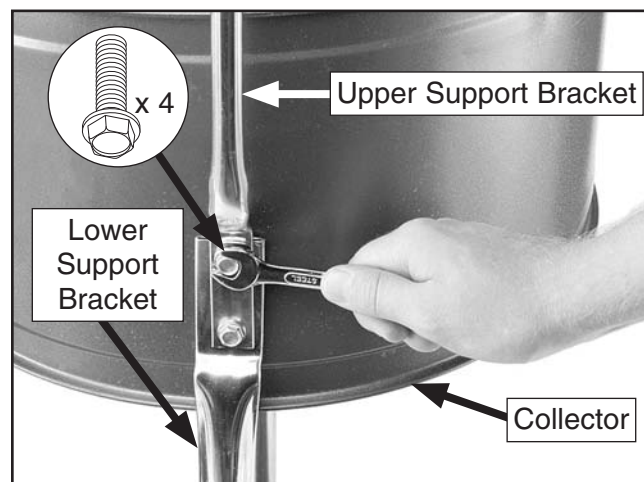

Figure 27. Mounting collector to brackets.
5. Secure the front lower support bracket to the collector with (2) $\frac{5}{16}$ "-18 x $\frac{1}{2}$ " flange bolts.
6. Place the upper support bracket over the rear lower support bracket, and secure them to the collector with (2) $\frac{5}{16}$ "-18 x $\frac{1}{2}$ " flange bolts, as shown in **Figure 27**.